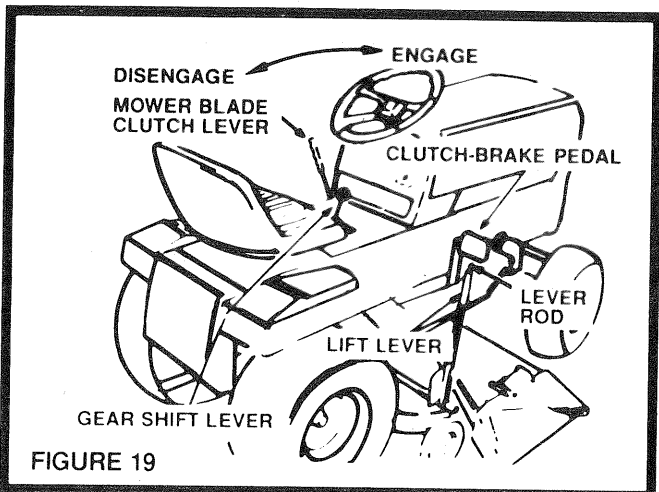
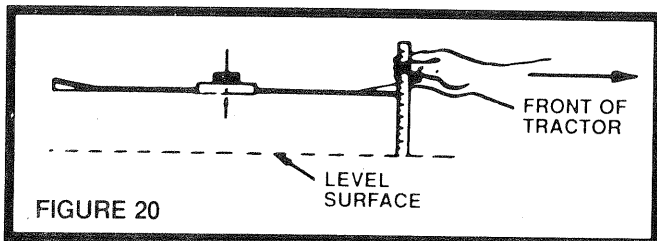

FIGURE 19
FIGURE 20
1. Set the Lift Lever in "MED" position (Fig. 19). Your mower should cut approximately 5 mm (3/16 inch) lower at front than at rear. With R.H. mower blade in line with length of tractor (Fig. 20), measure the height of the front tip of blade. Rotate blade 1/2 turn and measure. The front tip must be approximately 5 mm (3/16 inch) lower at front than at rear.
1. Place Mower Blade Clutch Lever in "DISENGAGE" position (Fig. 19).
5. Start mowing in the first gear and increase ground speed as conditions will permit. Average cutting height is approximately 6 to 7 cm (2-1/2 to 2-3/4 inches). Height of cut can be adjusted by means of the Lift Lever (Fig.19). Moving the Lever forward lowers the mower. Moving it backwards raises the mower. The left hand side of mower should be used for trimming.
1. Place Mower Blade Clutch Lever (Fig. 19) in "DISENGAGE" position.